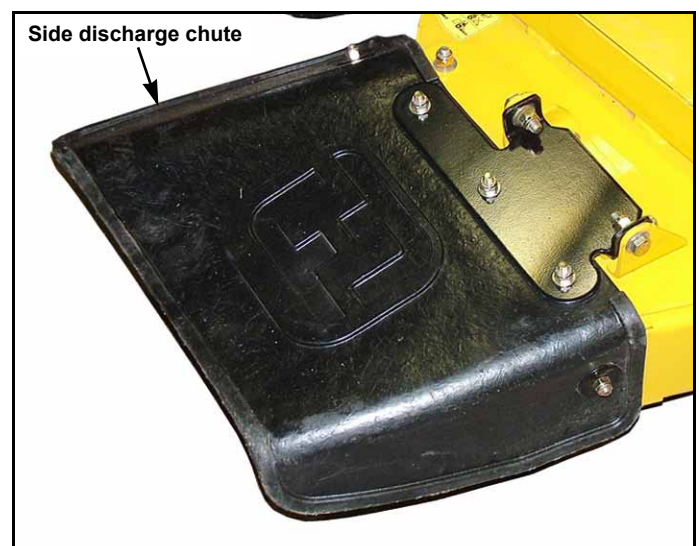

Fig. 4-8
**WARNING:** Never direct discharge of material from mower deck towards bystanders. Do not operate the mower without either the discharge chute or the entire grass collection system in place. Fig. 4-8